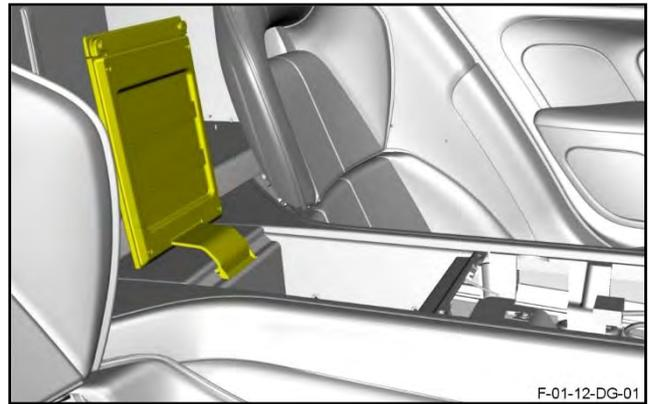

Figure 38
47. Open the door for the rear stowage compartment (refer to Figure 38).